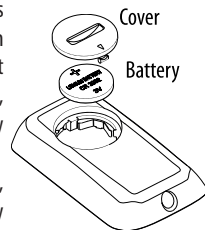

Fig. 1
- Replace the battery paying attention to respect the right polarity as shown in figure 1.